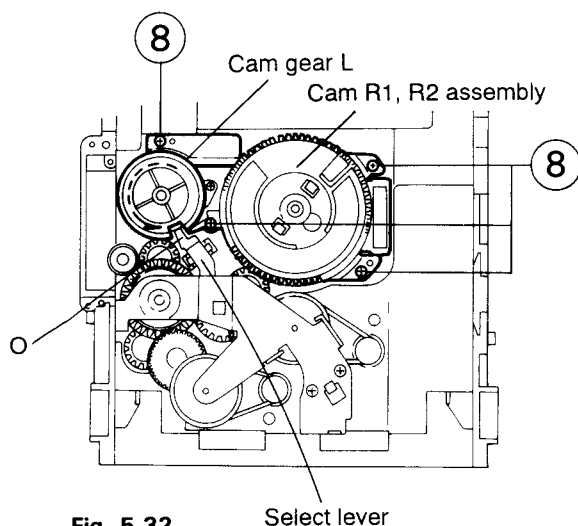

Fig. 5-32
4. While turning the cam gear L, align the pawl (O) position of the select lever to the notch position (Fig. 5-32) on the cam gear L.
5. Remove the four screws (8) retaining the cam unit (cam gear L and cams R1/R2 assembly) (See Fig. 5-32).